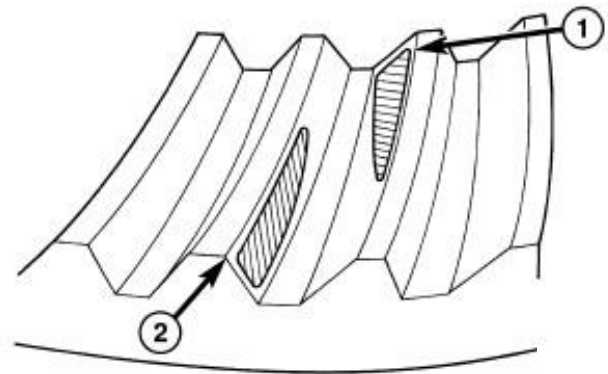

Figure 38
- The ring gear is too far away from the pinion gear, coast side toe (1) and drive side heel (2). Decrease the backlash, by moving the ring closer to the pinion gear using the adjusters (Figure 38).